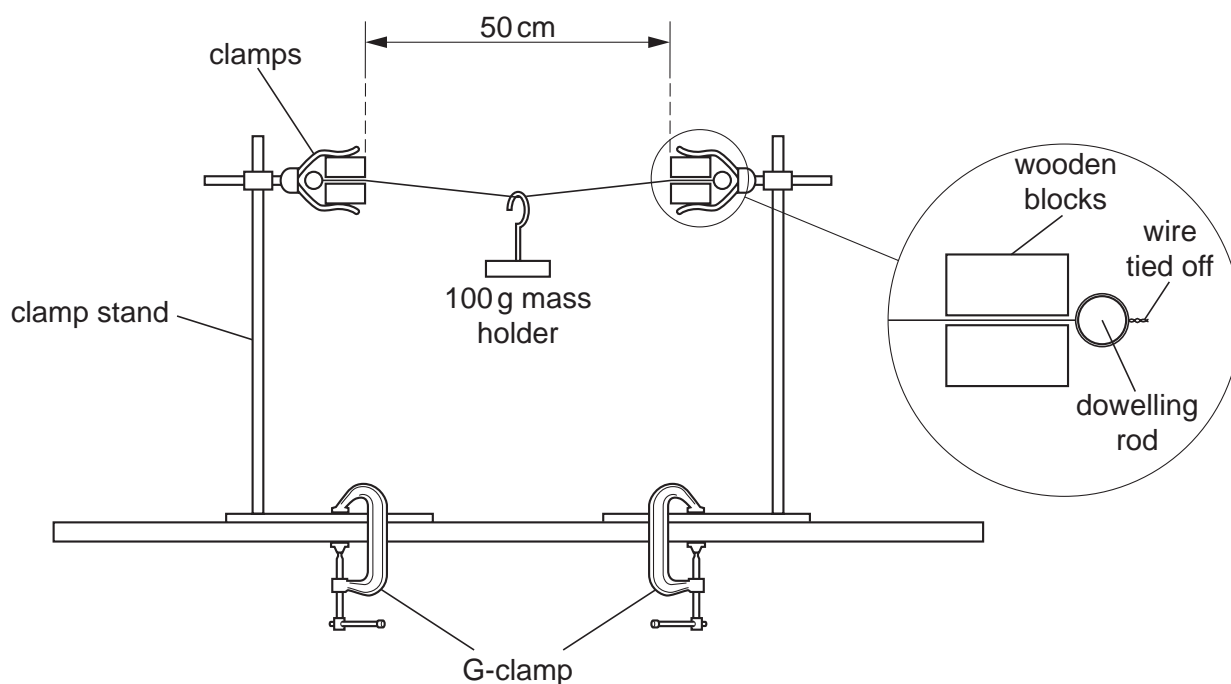

Fig. 2.1
- 1 Wrap each end of the constantan wire around a wooden dowelling rod several times and secure it. Place each end of the constantan wire between two wooden blocks and hold firmly in G-clamps, as shown in Fig. 2.1. The length of wire between the two pairs of wooden blocks should be approximately 50 cm, and the wire should be positioned about 40 cm above the table. The retort stands should be clamped firmly to the table. The 100 g mass holder should be placed so that it hangs down from the middle of the wire. Check that each boss, clamp and G-clamp is secure before the experiment starts and check that the wire will not move between the wooden blocks.
- 3 If the apparatus is to be used by a second candidate, dismantle the electric circuit **only** and check that the rest of the apparatus is still as in Fig. 2.1 and that the bosses, clamps and G-clamps are secure.